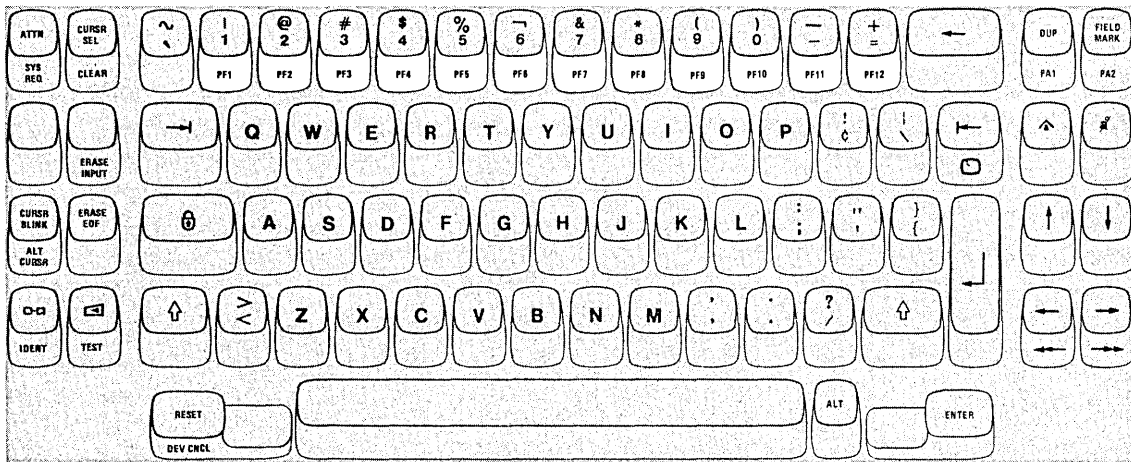

Figure 3-13. PF1–PF12 Keys
Application programs can assign programmable functions to the Program Function (PF) keys. On the 75-key Typewriter keyboard there are 12 PF keys on the front of the top row keys (Figure 3-13). The PF1 through PF12 keys are alternate function keys and can be activated only while the ALT key is held down.